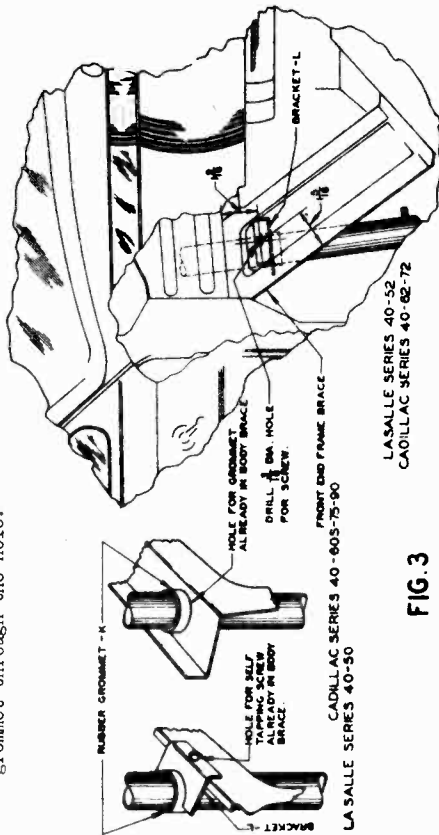

FIG. 3
- Attach the bottom antenna support bracket (L) to the front end body brace on Series 40-50, 52, 62 and 72 with self tapping screw, as shown in Fig. 3. The hole is provided in Series 40-50 but must be drilled in Series 40-52, 62 and 72. On Series 40-60S, 75 and 90 this support is built into the body brace and it is only necessary to insert the rubber grommet through the hole.
- Lower the antenna assembly through the hole in the cowl and put on Rubber Grommet (K) in Fig. 3 and washer (J) and rubber spacer (H) in Fig. 4.